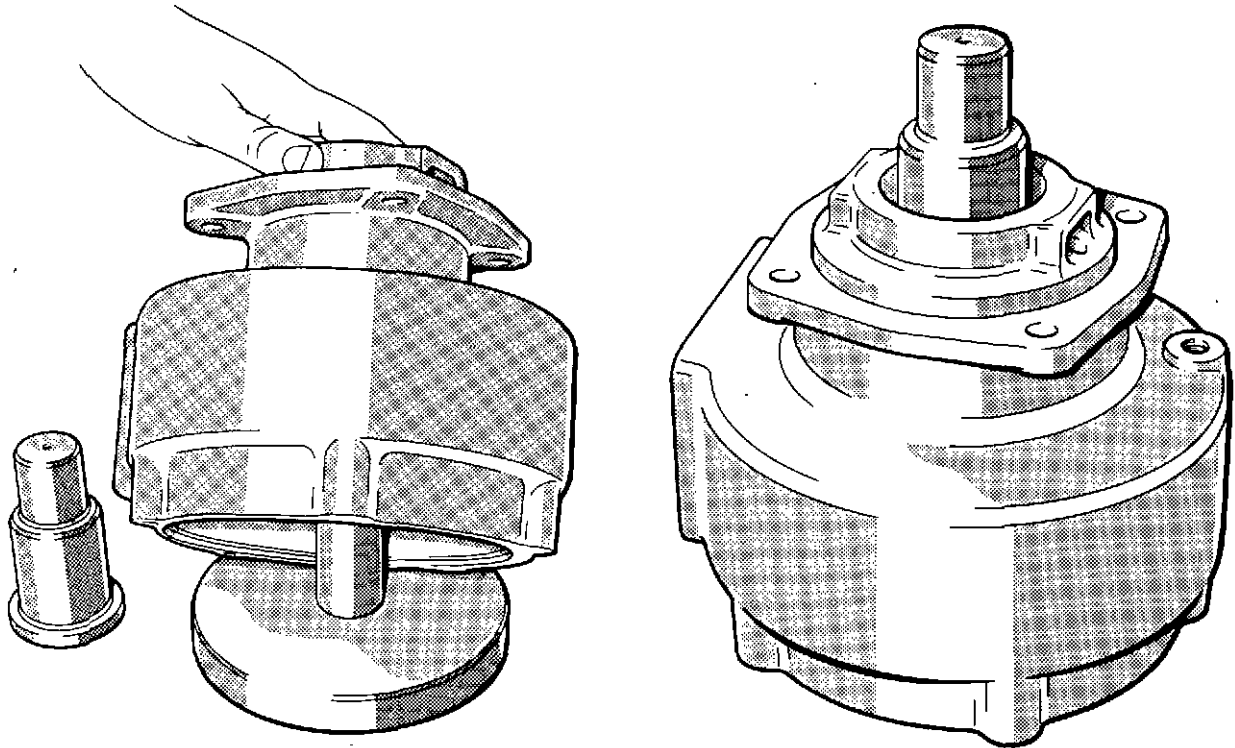

Fig. 7 Oil seal insertion tool
- 29 Place the base and guide pillar assembly of the oil seal Insertion Tool, VT 10677, on the press bed. Lower the pump casing over the assembly, drive end uppermost (fig. 7).